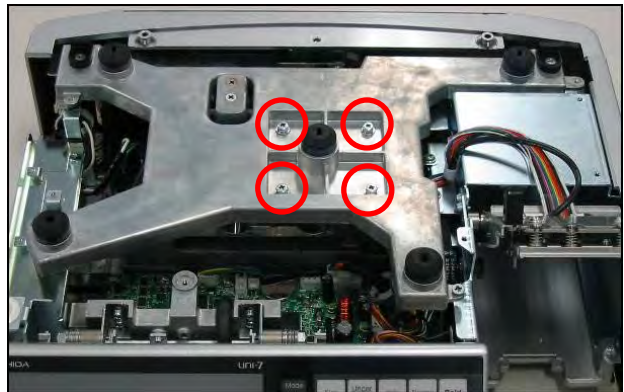

Figure 19. Remove Platter Support
- g. Remove the four 7 mm bolts securing the platter support. See Figures 19.